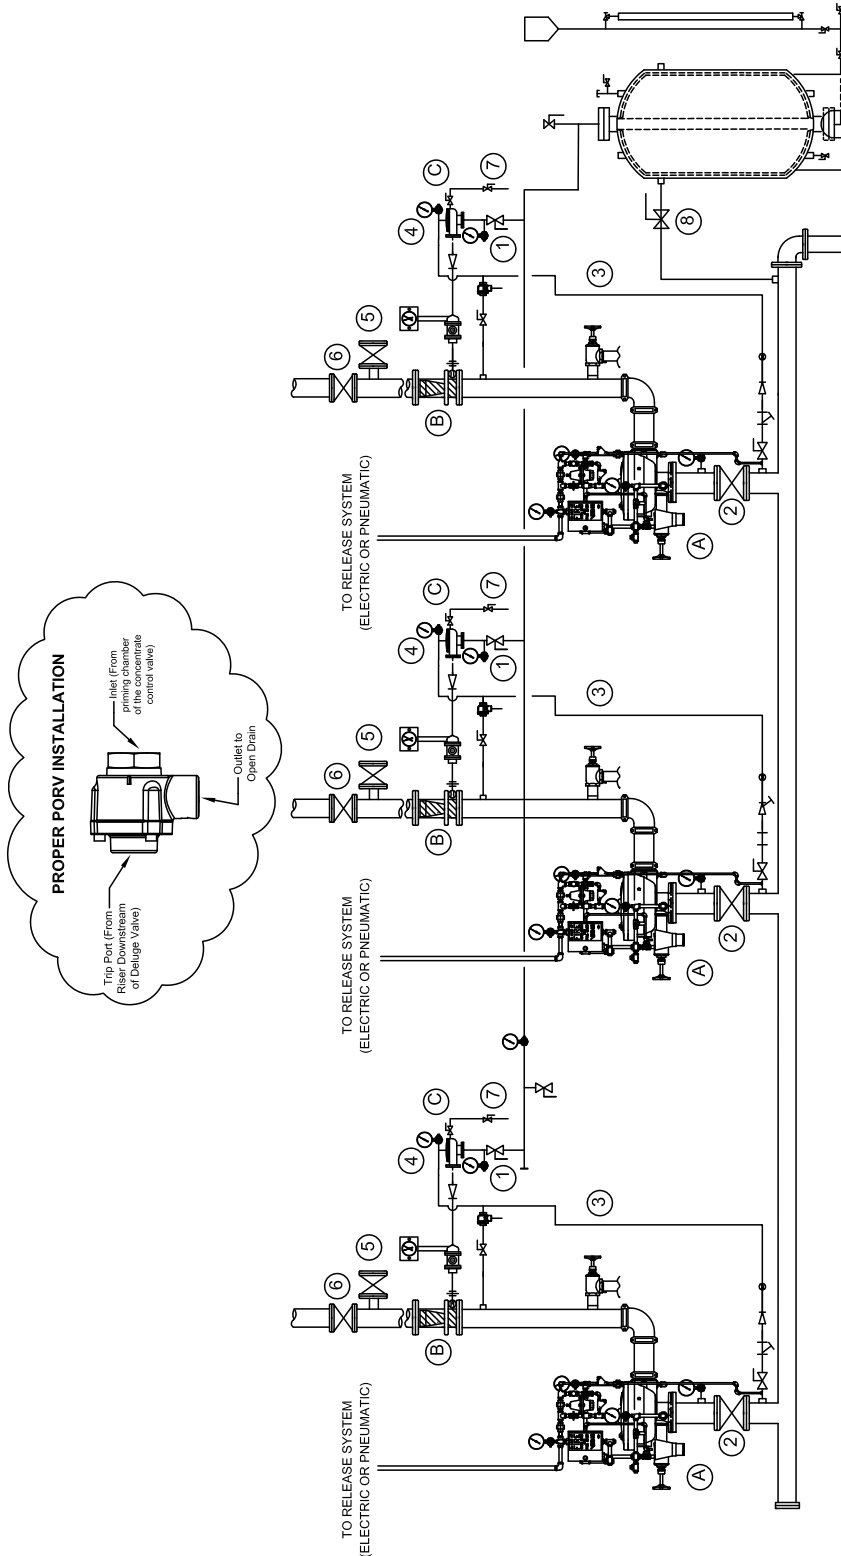

Figure 1
2. Install the Flow control valve with pilot pressure regulating deluge trim in accordance with *The Viking Engineering and Design Data* book and Figures 1 and 2.
3. Install the Viking In-line balanced pressure proportioner (ILBP) (B) in the riser. (See Special Note A and B, Page 31d).
4. Install foam solution test valve (5) and system isolation valve (6). These test valves are required in accordance with NFPA 16, and NFPA 16A.
5. Install the Viking hydraulically actuated Halar[®] coated concentrate control valve (C) and associated trim as indicated in Figures 1 and 2, **trim charts or technical data pages**.
6. Install bladder tank in accordance with the manufacturer's instructions with connections as shown on Figures 1 and 2, and herein described.
- d. Install the pipe from the riser to the tank as indicated on Figures 1 and 2. **The bladder tank water supply piping (16) must be connected above the pilot pressure regulating deluge valve (D).** Install the piping from the bladder tank to the Viking In-line balanced pressure proportioner (ILBP) (B) as straight as possible.
7. All valves should be closed, including the water supply control valve (2), the PORV water supply valve, the tank water supply control valve, the ½" ball valve, the concentrate control shut-off valve (1), and the foam solution test valve (5).
- a. Verify that the water supply control valve (2) is closed, close tank water supply control valve, then place the pilot pressure regulating deluge valve (D) in service. (See installation instructions on Viking Technical Data Sheet.) Open system isolation valve (6) if closed.
- c. Prime the pilot pressure regulating deluge valve (D) by opening the priming valve on the pressure regulating trim. Prime the Halar[®] coated concentrate control valve by opening the concentrate control priming valve. Bleed off any air pressure trapped in the priming line to the Viking Halar[®] coated concentrate control valve by opening the 3-way pressure gauge valve. Once air pressure has been relieved, close the 3-way valve to maintain pressure on gauge.
- d. When pressure in the pilot pressure regulating deluge valve (D) and the concentrate control valve (C) priming chambers equal system water supply pressure, turn on system water supply by opening water supply valve (2), place alarm test shut-off valve in alarm position.
- e. Place bladder tank in service by following manufacturers instructions, except to slowly open concentrate control shut-off valve to allow foam concentrate to flow slowly to the Viking Halar[®] coated concentrate control valve (D). With system set, fully open and secure water supply control valve.
- A. Provide a minimum of 5 pipe diameters of straight pipe on the inlet and outlet of the in-line balanced pressure proportioner (ILBP) (B) to minimize the turbulence inside the ILBP. Warning! If the outlet to the foam solution test valve (5) is located closer than 5 pipe diameters there may be turbulence at high flow rates.
- B. The release of the Halar[®] coated concentrate control valve (C) and the flow control valve (A) must NOT be combined. The concentrate control valve must be primed and released separately of the pressure regulating deluge valve to ensure open position of the concentrate control valve clapper.
- C. Figures 1 and 2 are a general schematics of the required piping arrangement. Refer to the appropriate technical data page for specific information regarding the valve, tank, and related trim and devices.
- F. The foam concentrate control deluge valve (C) does not require any trim except for a 1/2" priming line, 1/2" auxiliary drain valve and gauge with 3-way valve. Plug all remaining valve trim outlets. Refer to the "Valves" section of this data book to find the correct trim kit part number for the corresponding size of foam Halar[®] coated concentrate control valve (C) required.